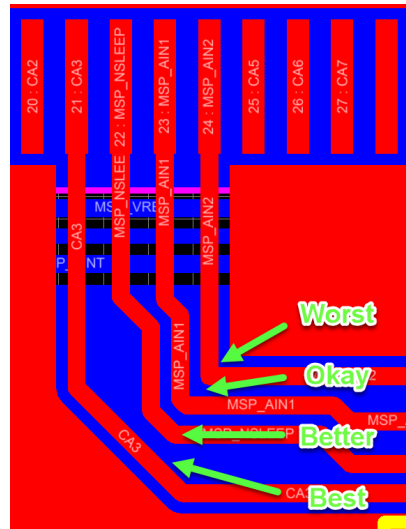

Figure 4-3. Right Angle Trace
- Do not use right-angle traces. A 90 degree bend in a trace acts as an impedance and can cause the current to reflect. When the phases of the motor are switching, the sharp bends can introduce electromagnetic interference (EMI) issues. Circular bends are ideal but may not be practical in actual designs. The best practice for corner routing is to use obtuse angles. Figure 4-3 shows different examples of angles in traces.